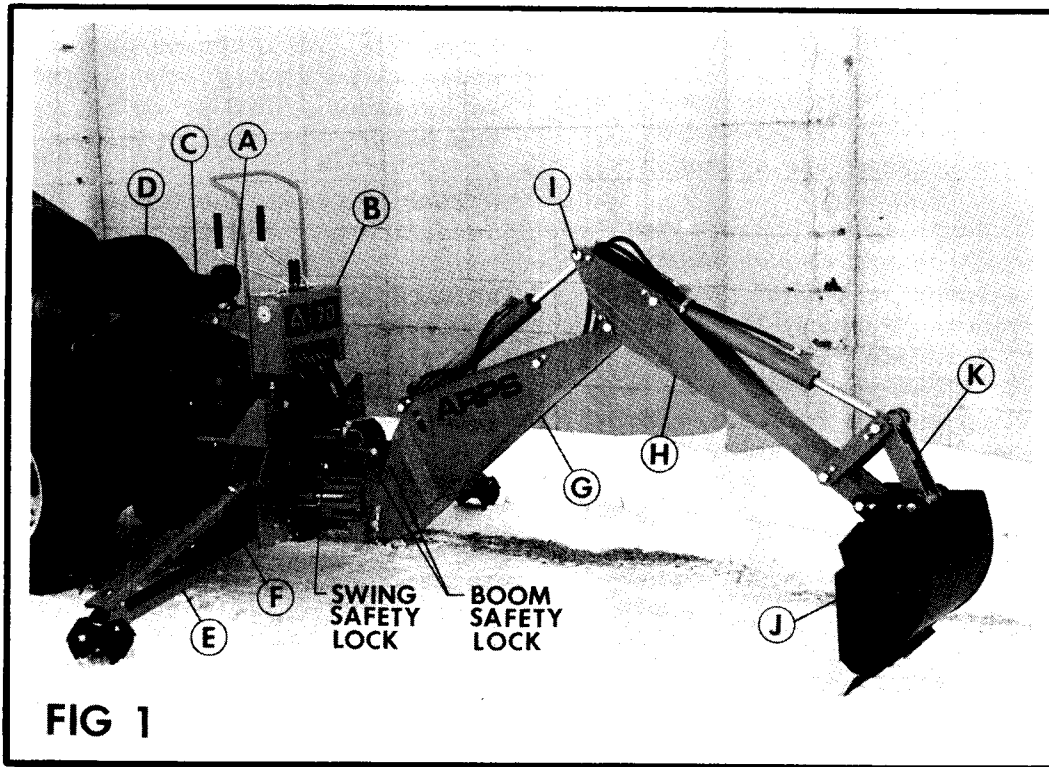

FIG 1
DISENGAGE safety locks as shown in Fig 1, before attempting to operate the backhoe.
ALWAYS engage safety locks as shown in Fig 1, before transporting backhoe.
3. Remove strapping from stabilizer pivot pins. Attach L.H. and R.H. stabilizers (E) to mainframe using pin and hardware assembled to mainframe. See Fig 1.
4. Attach L.H. and R.H. stabilizer cylinders (F) to stabilizer using pins and hardware provided. See Fig 1.
5. Support boom (G) and dipperstick (H) with hoist.
Remove strapping from boom and dipperstick (H) only. See Fig 1.
7. Attach dipperstick cylinder to dipperstick at point (I) using pin and hardware provided. Note that the hydraulic hoses are routed under cylinder rod bushing.
9. Attach bucket (J) to dipperstick using a 1" diameter x 7-3/8 inch pin, two 5/16 NF x 7/8 bolts, two pin retainers, lock-nuts, and necessary washers.
10. Attach bucket link (K) to bucket using same hardware as listed for #9.
1. **DISENGAGE** safety locks as shown in Fig 1, before attempting to operate the backhoe. Store lockpins in holes provided in top of valve shroud.
1. ALWAYS engage safety locks as shown in Fig 1, when transporting backhoe.